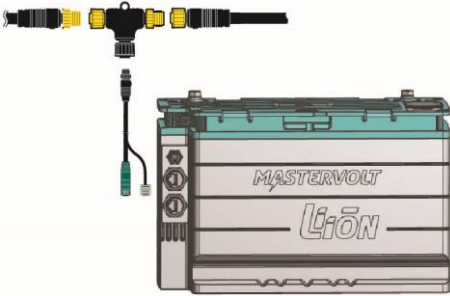

Figure 6: CZone drop cable
- CZone: connect the drop cable. On the battery side, plug the connectors into either of the communication ports. See Figure 6 on page 14.